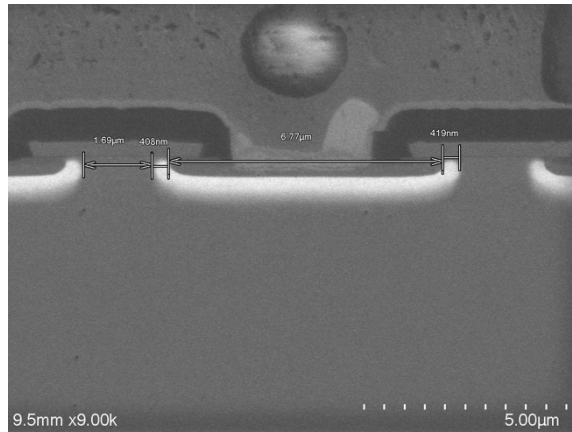

Fig. Q4a
- (1) Fig.Q4a is an SEM picture of a cross sectional SiC MOSFET. Identify various parts of the transistor in the image by drawing a schematic of the transistor and indicate their length if possible.